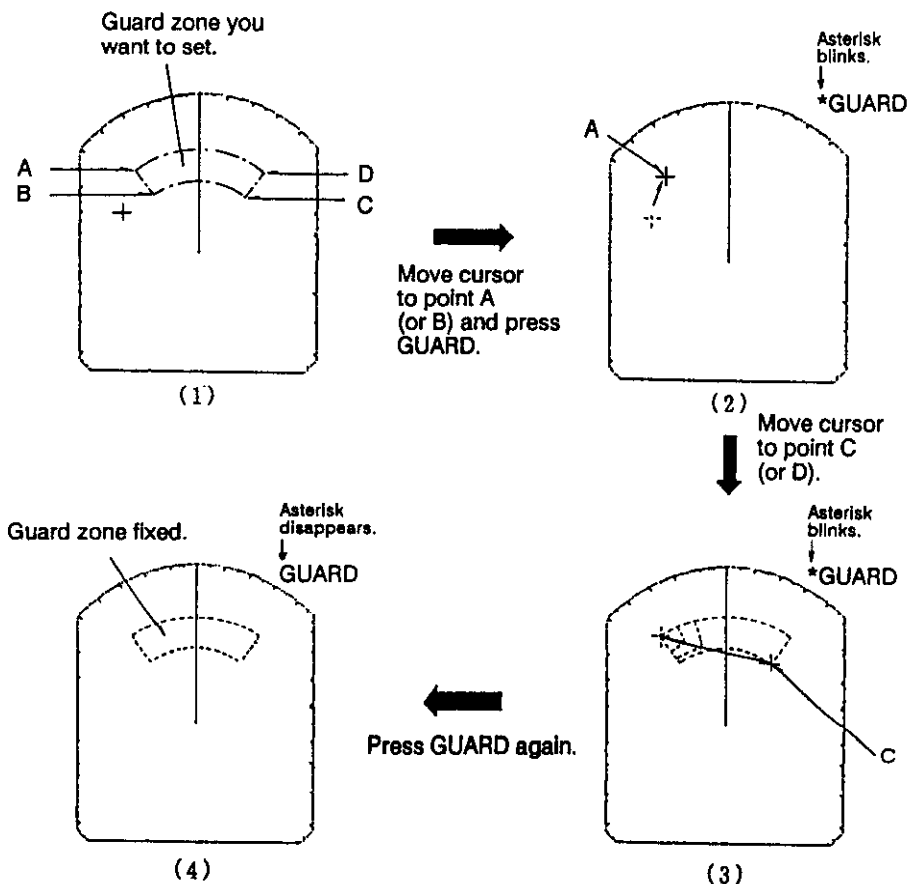

Figure 2-14 Setting Guard Zone
1. Mentally create the guard zone you want to display on-screen. See Figure 2-14 (1).
2. Set the upper (lower) left edge of the guard zone with the cursor. Press the **GUARD** touchpad. The indication **"*GUARD"** (asterisk blinking) appears at the upper right-hand side of the screen. See Figure 2-14 (2). The asterisk indicates the guard zone is partially set, but the alarm function has not been actuated.
3. Moving the trackball clockwise, set the lower (upper) right edge of the guard zone. The guard zone now appears on the display but the alarm function has not been actuated yet. See Figure 2-14 (3).